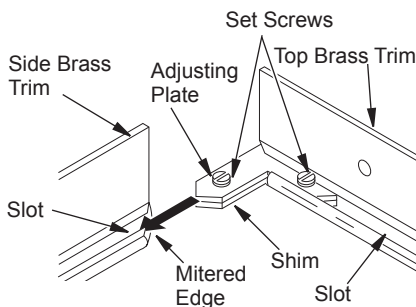

Figure 28 - Assembling Brass Trim
3. Align shim under adjusting plate as shown in Figure 28.
4. Slide one end of adjusting plate/shim in slot on mitered edge of top brass trim (see Figure 28).
5. Slide other end of adjusting plate/shim in slot on mitered edge of side brass trim (see Figure 28).